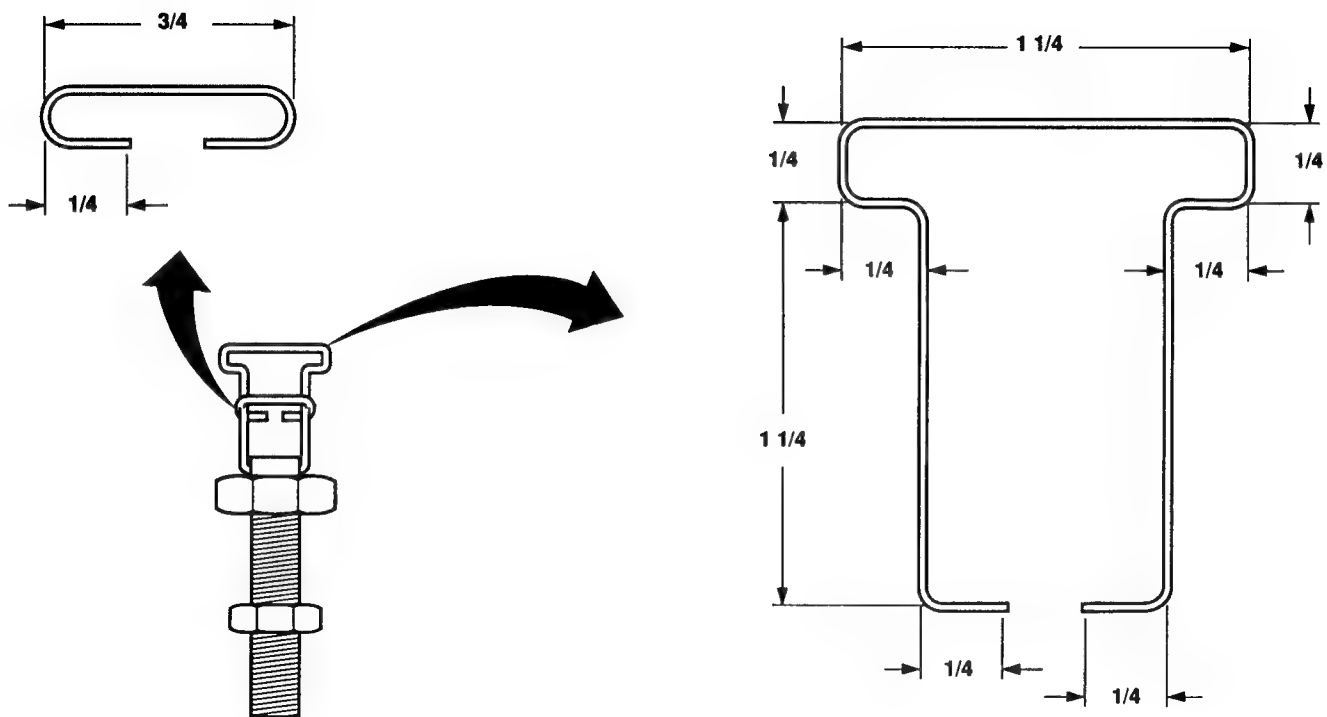

Figure 4-15. Switch Box Load Terminal Repair.
1. Release clamping catch (5) and open load terminal door (1) .
3. Make sure nut (13) is installed on terminal body (14).
4. Fabricate and install terminal clip in accordance with figure 4-15